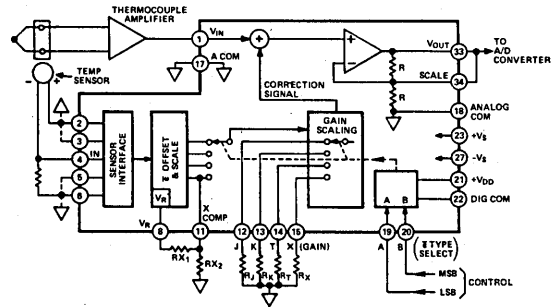
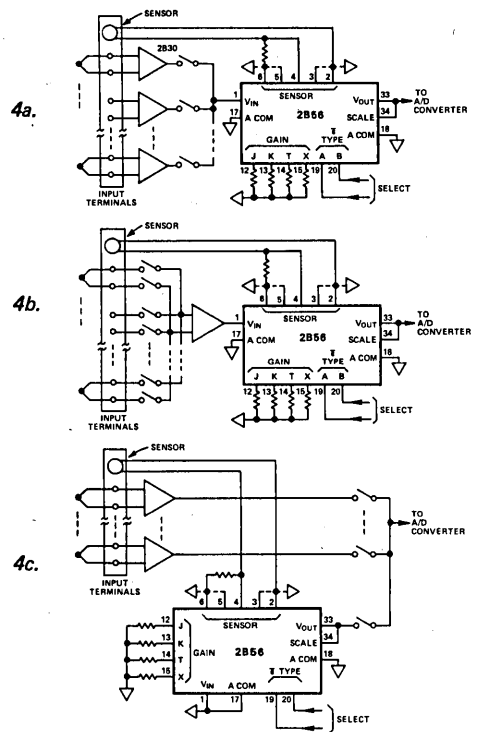

Figure 1. 2B56 Functional Block Diagram
Figure 4. Model 2B56 in Various Multichannel Applications
A buffer amplifier is provided at the output of the 2B56 to preserve accuracy when driving heavy loads. The gain from VIN to VOUT will be +1 when SCALE is connected to VOUT (see Figure 1). Input and output signal swings of up to ±10V can be accommodated with this connection. When the SCALE pin is left open, the gain from VIN to VOUT is +2. This is useful when interfacing a thermocouple amplifier with a ±5V output swing (such as the 2B54) to an A to D converter with a ±10V input range.
**Gain Selection:** Since the 2B56 performs cold junction compensation at the output of the user's thermocouple amplifier, it must take the gain of that amplifier into account. For this purpose, four gain-programming pins are provided: one each for the J, K, and T compensations and one for the X (user-selected) compensation. Thus the user's thermocouple amplifiers can have different gains for each thermocouple type in use, and the 2B56 gain will be selected automatically when the thermocouple type is selected at the digital TYPE SELECT inputs. Gain-programming resistors are connected as shown in Figure 1. The value of each resistor is  $R = 10k\Omega / (G - 1)$  where G is the gain of the user's thermocouple amplifier from the thermocouple terminals to the input of the 2B56. As an example, if the thermocouple amplifiers in use have a gain of 110 for type J, 90 for type K, and 220 for type T, then  $R_J = 91.7\Omega$ ,  $R_K = 112\Omega$ , and  $R_T = 45.7\Omega$ . Gain resistor pins for unused thermocouple types must be grounded. The resistors used to set gain should have a tolerance of 1% or better. A 1% error in setting gain will result in a  $0.01^\circ\text{C}/^\circ\text{C}$  slope error.
**Compensation of Other Thermocouple Types:** Compensation for type J, K, and T thermocouples is built into the 2B56. A fourth compensation can be added by installing two resistors ( $R_{X1}$  and  $R_{X2}$ ) as shown in Figure 1. Table II gives the values needed for proper compensation of type E, R, and S thermocouples. Type B thermocouples are a special case, in that they have almost no output in the  $+5^\circ\text{C}$  to  $+45^\circ\text{C}$  range, and therefore, do not need cold junction compensation at all. To accommodate a type B thermocouple, select No Compensation (described in the next section). Errors due to cold junction temperature will be less than  $\pm 1^\circ\text{C}$  for any measurement temperature above  $260^\circ\text{C}$ . In the measurement range beyond  $1000^\circ\text{C}$  (where type B thermocouples are normally used) the error will be less than  $\pm 0.3^\circ\text{C}$ .
**No Compensation Operation:** In some instances it may be desirable to disable the compensation function of the 2B56, so that it functions as a straight-through amplifier with a gain of one (or two, if the output scaling feature is used). This might be done, for example, in a multichannel system with a mixture of thermocouples and strain gage signals or other sources requiring no compensation. It is also necessary when using the type B thermocouple, as described above. The X compensation can be programmed to provide no compensation by grounding pin 11 (X COMP), Figure 1. A  $200\Omega$  resistor should be used for  $R_X$  (at any gain). Selecting X compensation with this connection will give an uncompensated output.
The application of the 2B56 to a single-channel system is shown in Figure 1. Because the 2B56 compensates at the output of the thermocouple amplifier, it is also very attractive for use in multiplexed multichannel systems. Three typical applications are shown in Figure 4. The amplifier-per-channel structure shown in Figure 4a is one example of a system which could have a different gain for each thermocouple type in use, with channels preassigned or switchable for thermocouple type. The model 2B30 may be used as an amplifier for applications not requiring isolation.